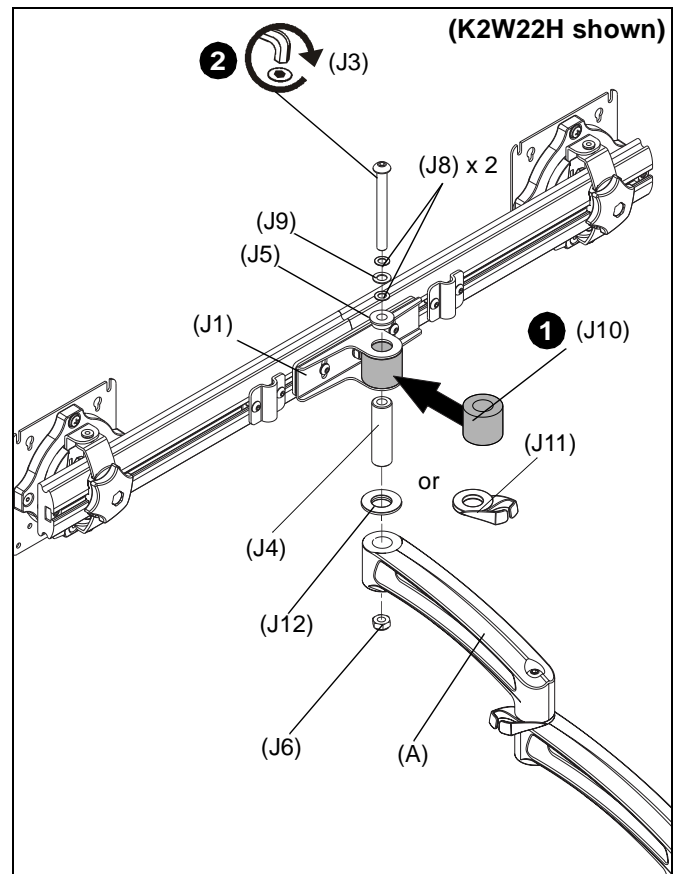

Figure 2
1. Slide rotational spacer (J10) into opening on array attachment bracket. (See Figure 2)
2. Use 5/16-18 x 3" button head cap screw (J3), two thin steel washers (J8), plastic spacer (J9), pocket washer (J5), pivot pin (J4), pivot point spacer (J12) and 5/16-18 lock nut (J6) to secure array (J1) to K2 arm (A). (See Figure 2)
NOTE: Cable clip (J11) can be used in place of pivot point spacer (J12) if additional cable management is desired. (See Figure 2)